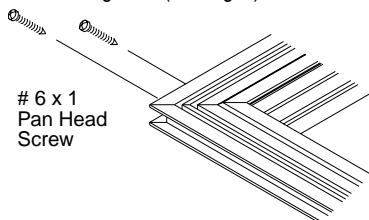

Figure 1
- ③ Screw the left and right sides to the top and bottom frame members using #6 x 1" screws through the two pre-drilled holes in each end of sides. Screws should thread into the circular screw channels. Make sure frame assembly is square by measuring across frame diagonals (see Fig. 1).